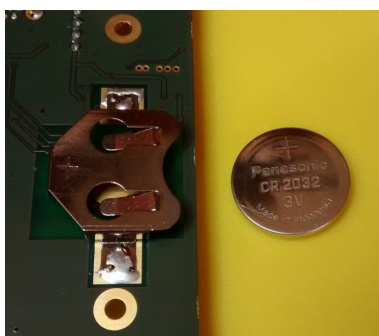

Fig A.2. Correct orientation of RTC battery
7. Insert the new battery fully into the holder ensuring that the + sign on the battery is towards you and away from the board (see Fig A.2).